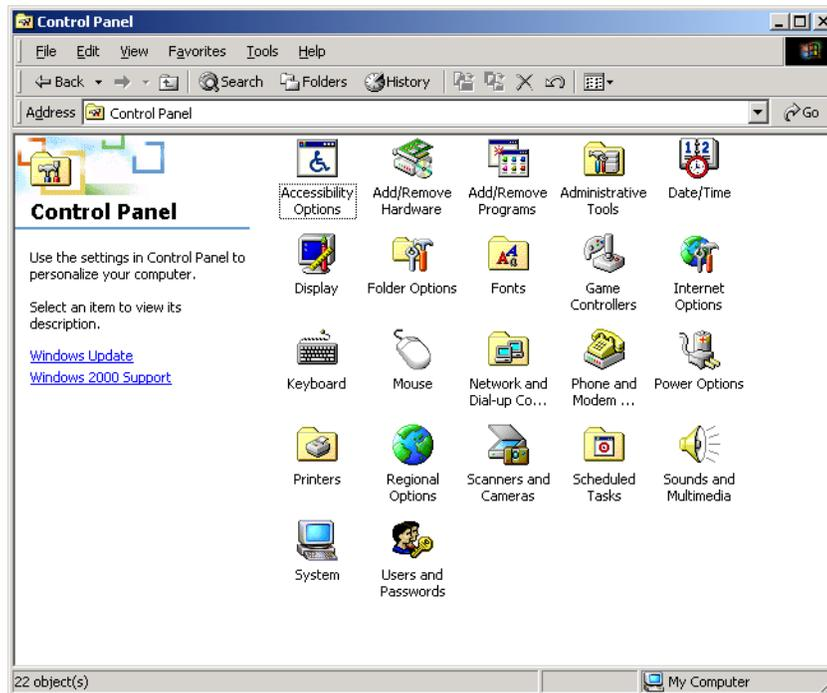

Figure 66 Control Panel Window
2. Select **Settings**, then **Control Panel**. The window shown in Figure 66 is displayed.